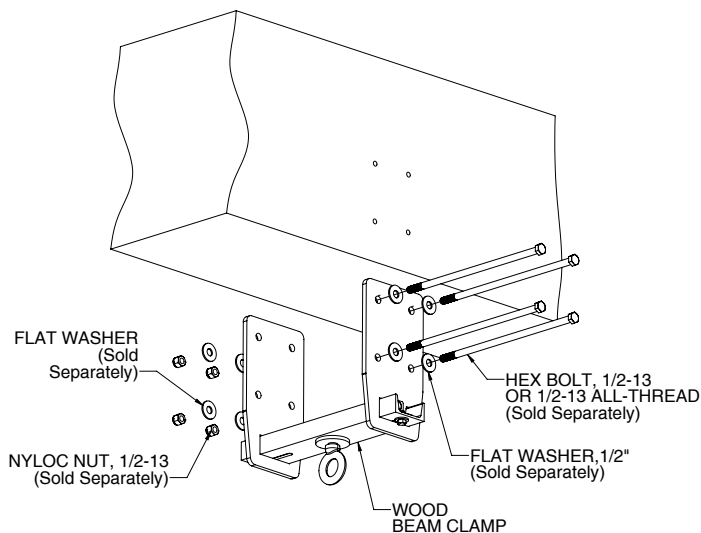

Figure 3
- Insert $1/2$ " dia. bolts with washers from one side until it protrudes from the opposite side plate. **Bolts should be long enough to go through the width of the wood beam and the side plates.** Secure side plate to beam with washers and nyloc nuts. (Figure 3).